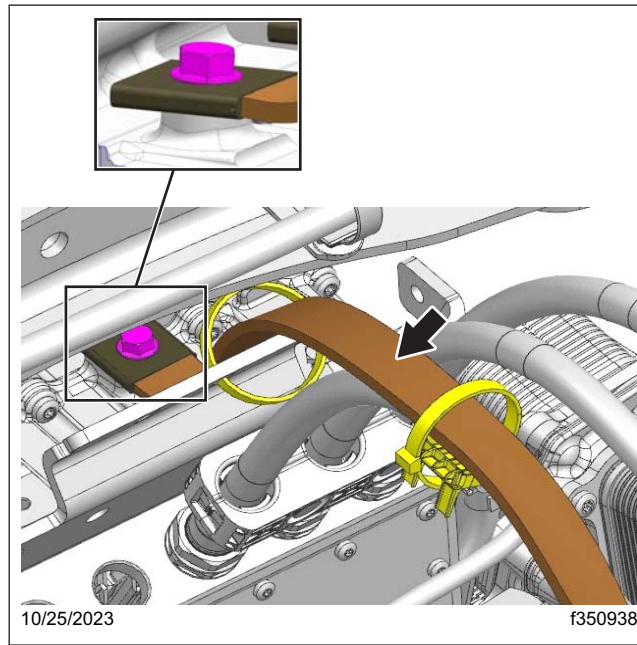

Fig. 14, Flat Grounding Cables Straps
9. Disconnect the flat grounding cables straps, shown in Fig. 14, from the e-Axle.
62. Connect the flat ground cable straps, shown in Fig. 14 \(Page 16\), to the e-Axle.